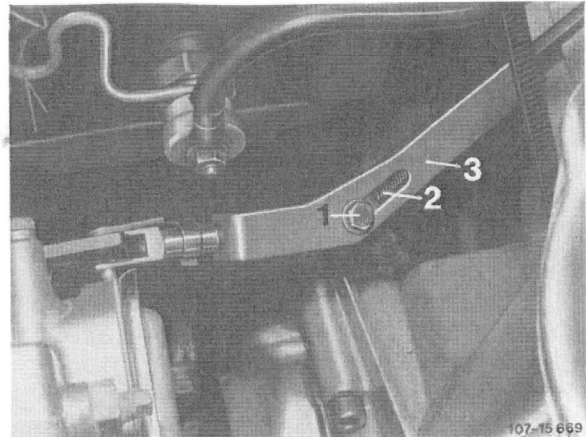

Fig. 199
Note: Compression spring (2) will pull automatic transmission also to full throttle (Fig. 199).